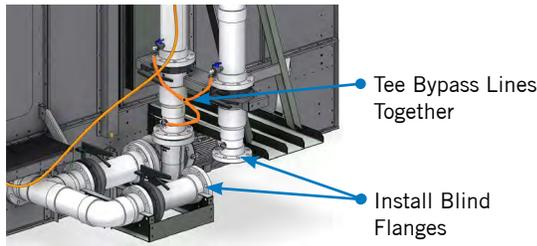

Figure 14.
6. If the pump will be removed for an extended period install blind flanges on the suction and discharge side of the removed pump. Tee the bypass line of the removed pump into the adjacent bypass line. Open the bypass valve for the removed pump. See **Figure 14**.